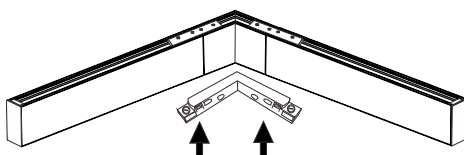

Figure3.3
3. After the two tracks are spliced together, insert the horizontal internal L-type guide connector into the splicing place of the two tracks to make the internal circuit of the two tracks Connecting conduction; (See Figure 3.3)